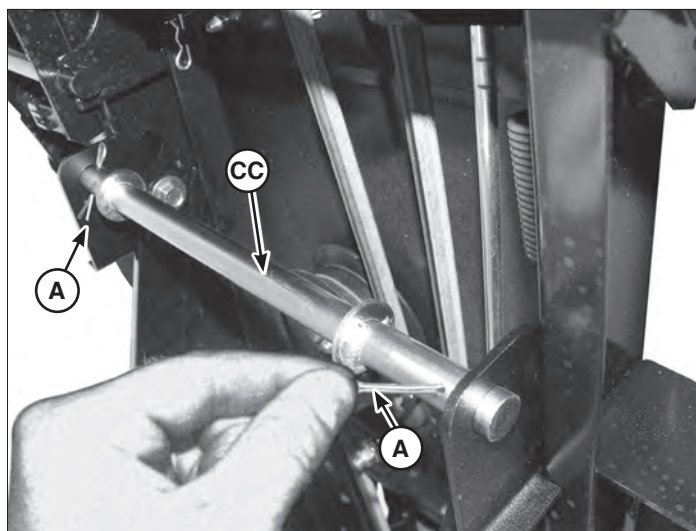

Figure 3
3. Insert the rear support rod (CC, Figure 3) into the right and left rear hitch support holes. Secure with cotter pins (A). Cotter pins should be on the inside of the hitch supports.